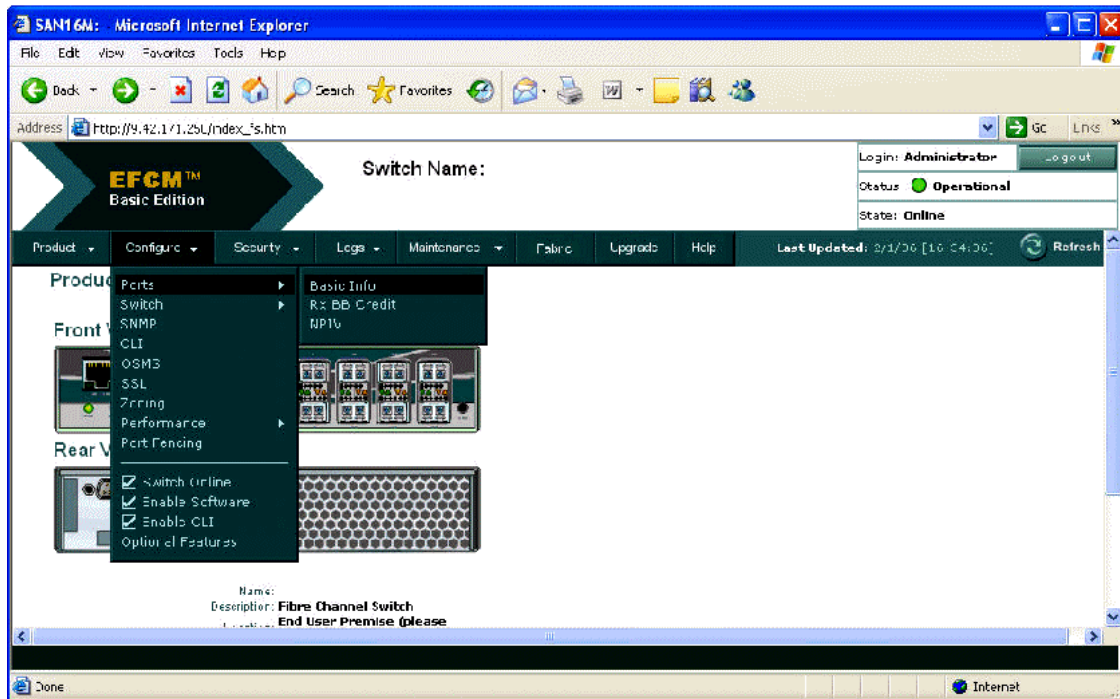

Figure 6-10 SAN16M window
- From the action menu, select **Configure** → **Ports** → **Basic Info** (Figure 6-10).